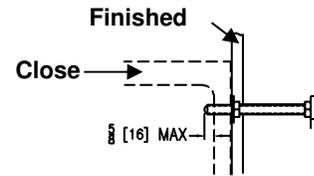

Figure 11a
11. Prep for finished wall. Fasten the (4) threaded rods from the finish bag into the faceplate, using the (4) jam nuts to tighten the studs down. Each rod extends 5/8 [16] past the closet bowl flange (see **Figure 11a**).